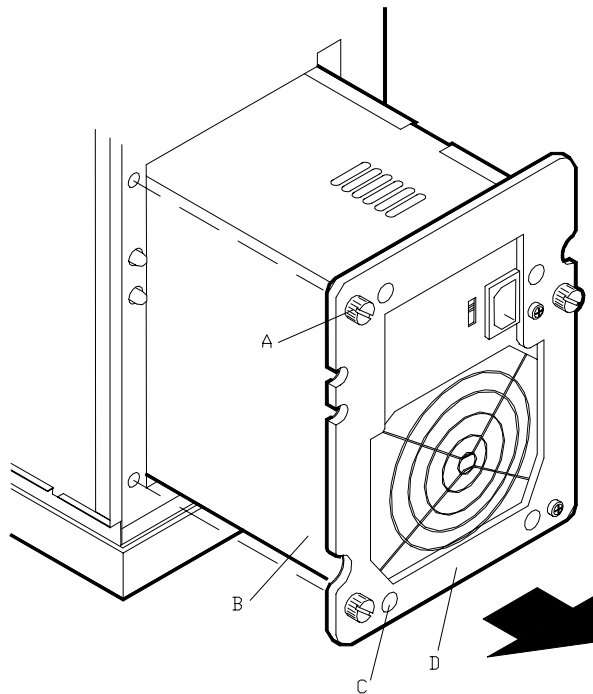

Figure 4-5. Removing the Power Supply
2. Unloosen the three thumbscrews (see Figure 4-5) that secure the power supply assembly to the rear panel.
3. Remove the power supply assembly (B) from the rear of the chassis.